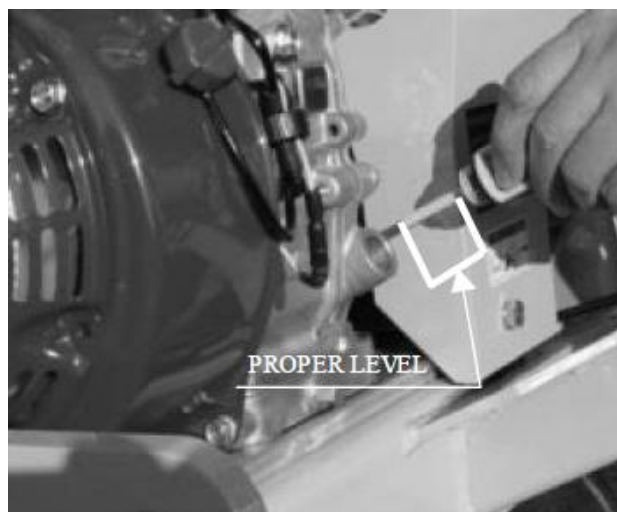

Figure 5-1
3. Check the oil level. Oil should be to the Full mark on the dipstick (Figure 5-1).